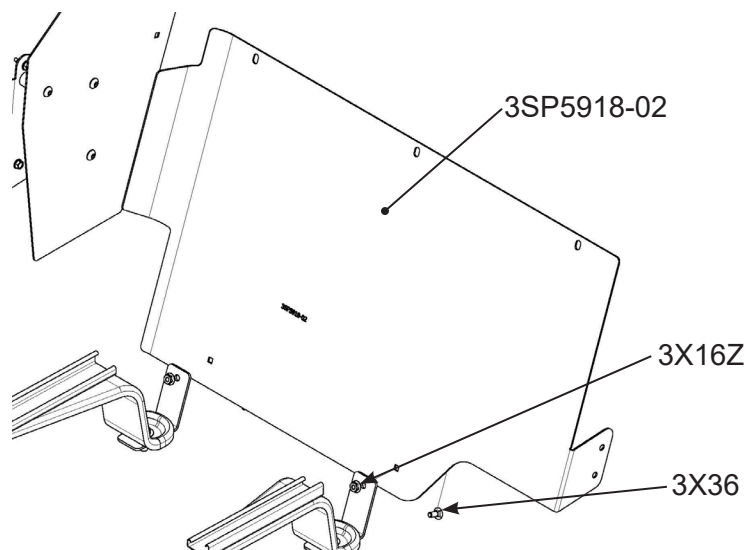

Fig. 5
- B. Attach (3SP5918-02) seat protector from the backside of the partition. Align lower mounting holes and bolt together with (3X36) and (3X16Z) whiz nuts. (See Fig. 5)